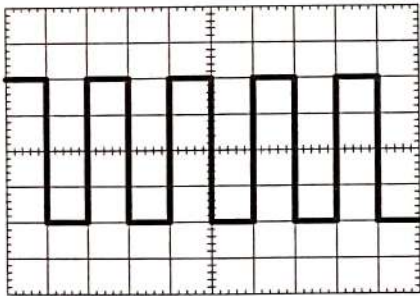

Fig. 4-3
- (1) Turn on the power. The trace would appear on the screen about 20 seconds later. If the trace wouldn't appear after 60 seconds, please check the setting of the switches and controlling knobs again.
- (2) Adjust the knobs INTEN and FOCUS to get the clear and comfortable trace.
- (3) Adjust CH1 position and the potentiometer for trace rotating to make the trace be parallel with the horizontal scale. (Use a screw to rotate the potentiometer ④).
- (4) Use the probe 10:1 to input the calibrating signals into CH1 input.
- (5) Set the key AC-GND-DC to be AC. A square wave shown as Fig. 4-3 would appear on the screen.
- (6) Adjust the FOCUS to make the trace be clear.
- (7) As for other kinds of waveforms, adjust the vertical attenuator, the sweep time switch, the vertical and horizontal position knob to the proper setting. The amplitude and the time can be read out easily.